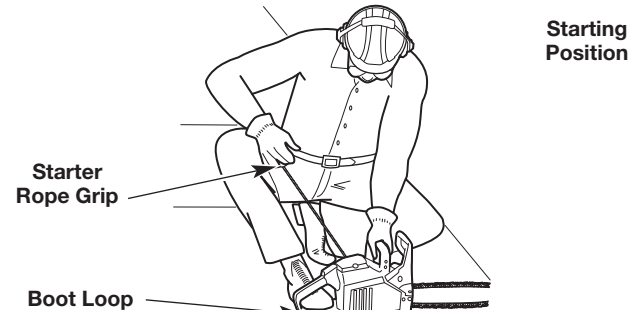

Fig. 5
**WARNING:** Avoid accidentally starting the unit. To avoid serious injury, the operator and the unit must be in a stable position when pulling the starter rope (Fig. 5).
5. Crouch in the starting position (Fig. 5). Hold the front handle with the left hand. Hold the starter rope grip with the right hand. Insert the right foot into the boot loop to help hold the unit firmly in place.
6. Pull the starter rope with a controlled and steady motion **5 times** (Fig. 5).